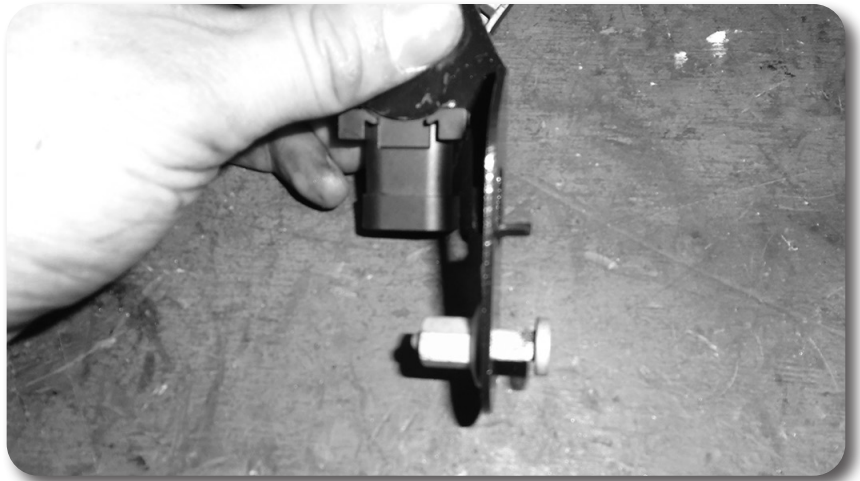

Figure 50
75. **6" Denali Models (ARC Models) Only:** Remove the stud and nut assembly from the factory ARC sensor bracket. Install the stud and nut assembly into the new ARC sensor bracket Fig. 50.